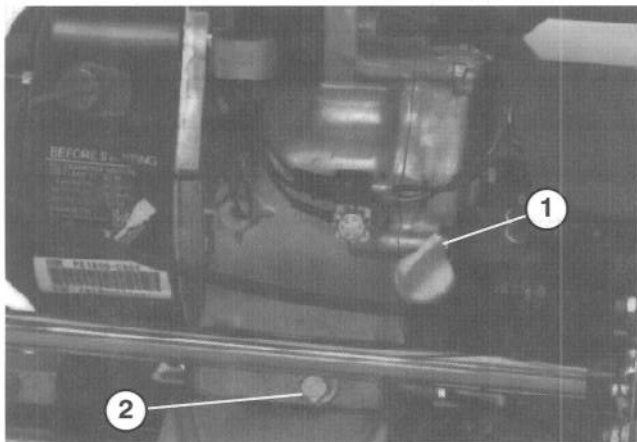

Figure 25
1. Position mower so the engine is level and clean around oil level gauge (Fig. 25).
2. Place a drain pan at rear of machine under drain plug (Fig. 25). Remove drain plug.